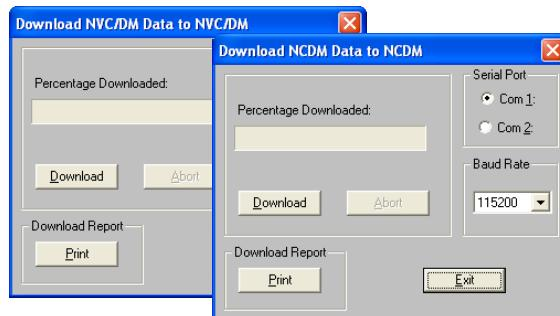

Figure 3.11 Download Data dialog boxes
- i) Click **Download** (figure 3.11).
The upload can be stopped by clicking **Abort** (figure 3.11).